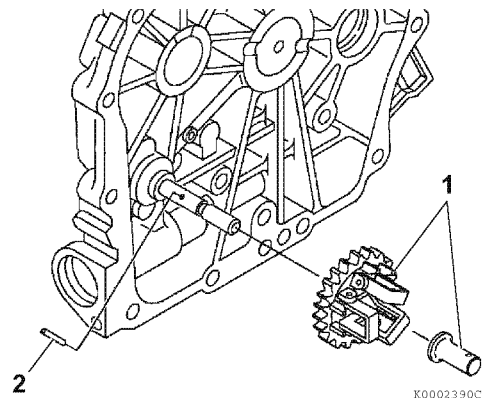

Figure 6-77
- Install the drive pin (2, **Figure 6-77**). The pin must protrude evenly from either side of the shaft.
- Install the oil pump/governor drive gear and spindle assembly (1, **Figure 6-77**) onto the oil pump shaft. Ensure the gear is fully seated and the drive pin engages the drive grooves in the gear.